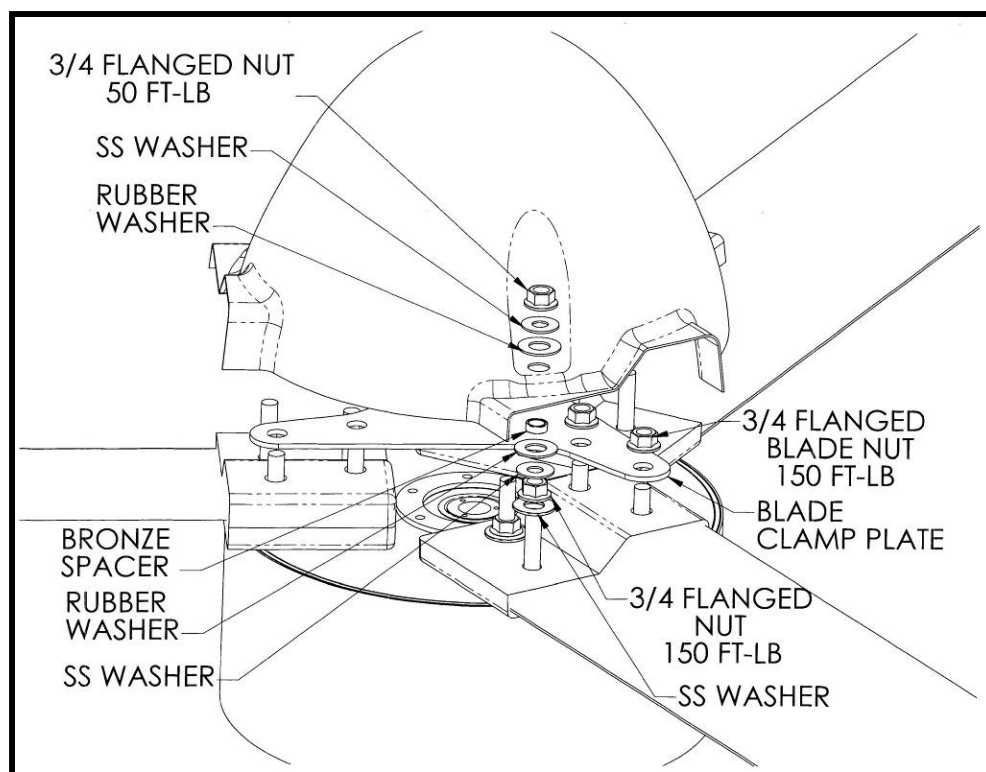

Figure 11: EXCEL Blade, Clamp Plate and Spinner Attachment
19. Attach the three blades to the powerhead as shown in **Figure 11**, with the hardware provided in the Blade and Spinner Hardware Kit (HK0003). The contents of HK0003 are shown in **Figure 11**.
- c. Attach the blade clamp plate so it fits over the six studs in the thick sections of the blade root pads. Only one blade clamp orientation will allow this placement, as shown in **Figure 11**. Secure the clamp plate on the blade roots using six Spiralock nuts, **torqued to 150 ft-lb** (washers are not required).
20. Attach the spinner to the powerhead as shown in **Figure 11**, making sure that all hardware is ordered and positioned properly. The recommended procedure is as follows:
- a. Pre-assemble a stainless washer, rubber washer and bronze spacer in proper configuration (shown in **Figure 11**), fastened together with a small amount of silicone caulk. **Be sure the bronze spacer is *inside* the rubber washer and against the stainless washer.** Be sure the inner diameters of the stainless washer and spacer are properly aligned. Do this ahead of time for three separate assemblies, and use these assemblies when you are ready to attach the spinner.